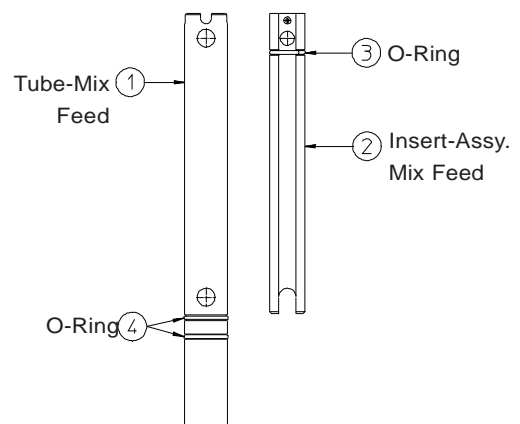

Figure 6-4 Diassemble Mix Feed Tube
12. Remove the mix feed tube assembly from the hopper, as shown in figure 6-4 and remove the o-rings (2).